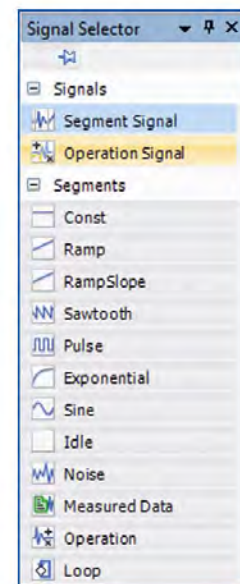

Figure 2: The Signal Selector is an easy way to select signal types.
The ability to create artificial signal behaviors is an indispensable part of building test scenarios. Real signals that can be used as a reference are not always available, and measured signals often have to be edited to make them suitable. The Signal Editor's synthesis features are a valuable help here. It has numerous basic signal types that you can base your definition on: sine, ramp, noise, and so on (Figure 2).
To fulfill the diverse test requirements for electric motors, the simulation models and I/O models can be distributed flexibly on the processor cores of the quad-core DS1006. Figure 2 shows a typical simulation model distribution and I/O distribution for testing hybrid drives. The first core calculates the model of the internal combustion engine. This is the main task of the multiprocessor (MP) model. The second core and third core execute the model (synchronous motor and inverter) and I/O access for the electric motor, respectively. The fourth core is free for further models, such as for simulating restbus communication. It can also execute the model
In the example shown in Figure 2, a dSPACE Electric Motor HIL (EMH) Solution is used for each electric motor. The EMH Solution is based on a dSPACE DS5202 FPGA Base Board and offers all the necessary I/O channels for simulating up to two electric motors. This includes outputting and measuring PWM signals and emulating the position sensor signals. The EMH Solution's I/O access is performed by the appropriate models on the 2nd and 3rd cores of the processor. The DS2211 HIL I/O Board covers the I/O requirements of the internal-combustion engine that is calculated on the first core of the processor. And there are separate PWM and PSS Solutions to cover especially extensive I/O requirements. These I/O boards were already been used with the quad-core DS1006 to develop a complete vehicle platform for solid models with a hybridized drivetrain.